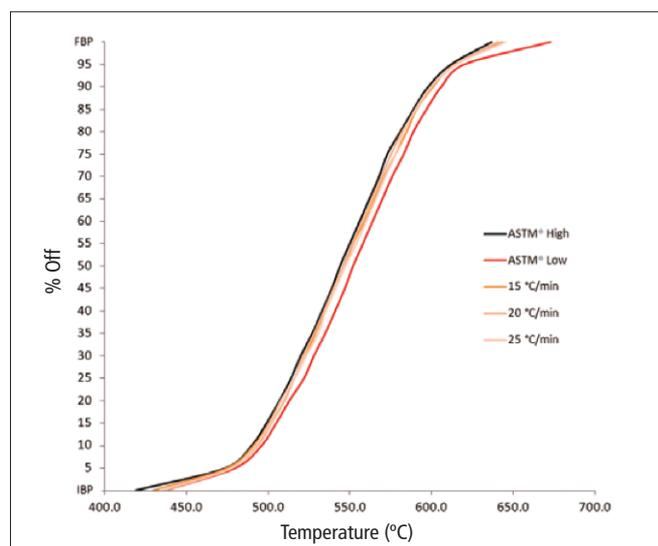

Figure 5. Boiling-point-range distribution vs. temperature for reference gas oil 5010 at different oven heating ramps.
versus temperature, we can see that temperature ramps in the 15 °C/min to 25 °C/min were well within the ASTM® method limits (Figure 5). If the GC oven ramp exceeds 25 °C/min, the curve will fall outside of the ASTM® limits and fail the required quality control (QC) reference.